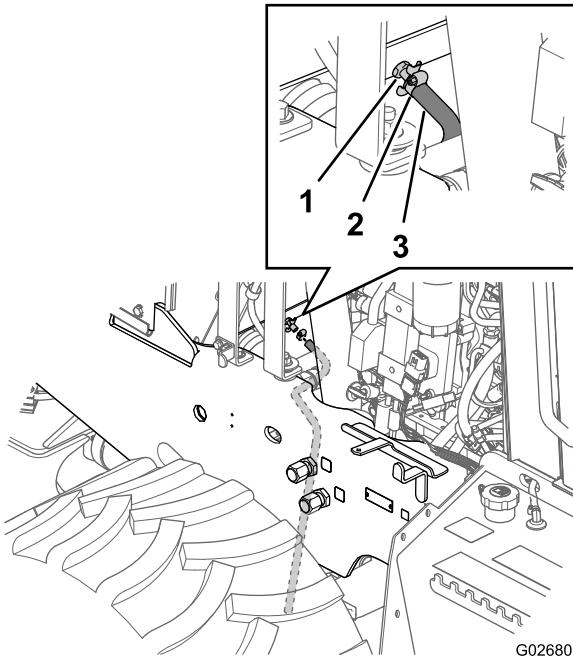

Figure 99
4. Slip a coolant resistant hose that is 3/8 x 30 inches over the outlet for the drain valve in the radiator (Figure 99).
5. Secure the hose to the drain valve with a hose clamp (Figure 99).
10. Remove the drain hose and clamp (Figure 99 and Figure 100).
- D. Open the drain valve and drain the cleaning solution into a drain pan (Figure 99 and Figure 101).